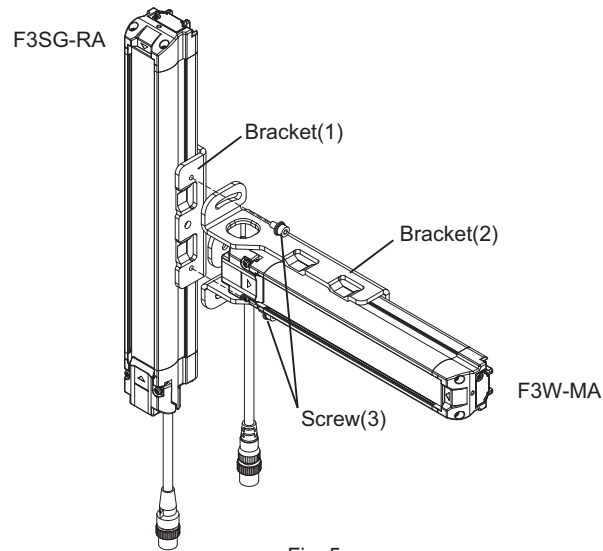

Fig. 5
4. Temporarily tighten the included Screw(3) (hexagon socket head cap screw (M4×8)) to fix the Bracket(2) to the Bracket(1). (Fig. 5)